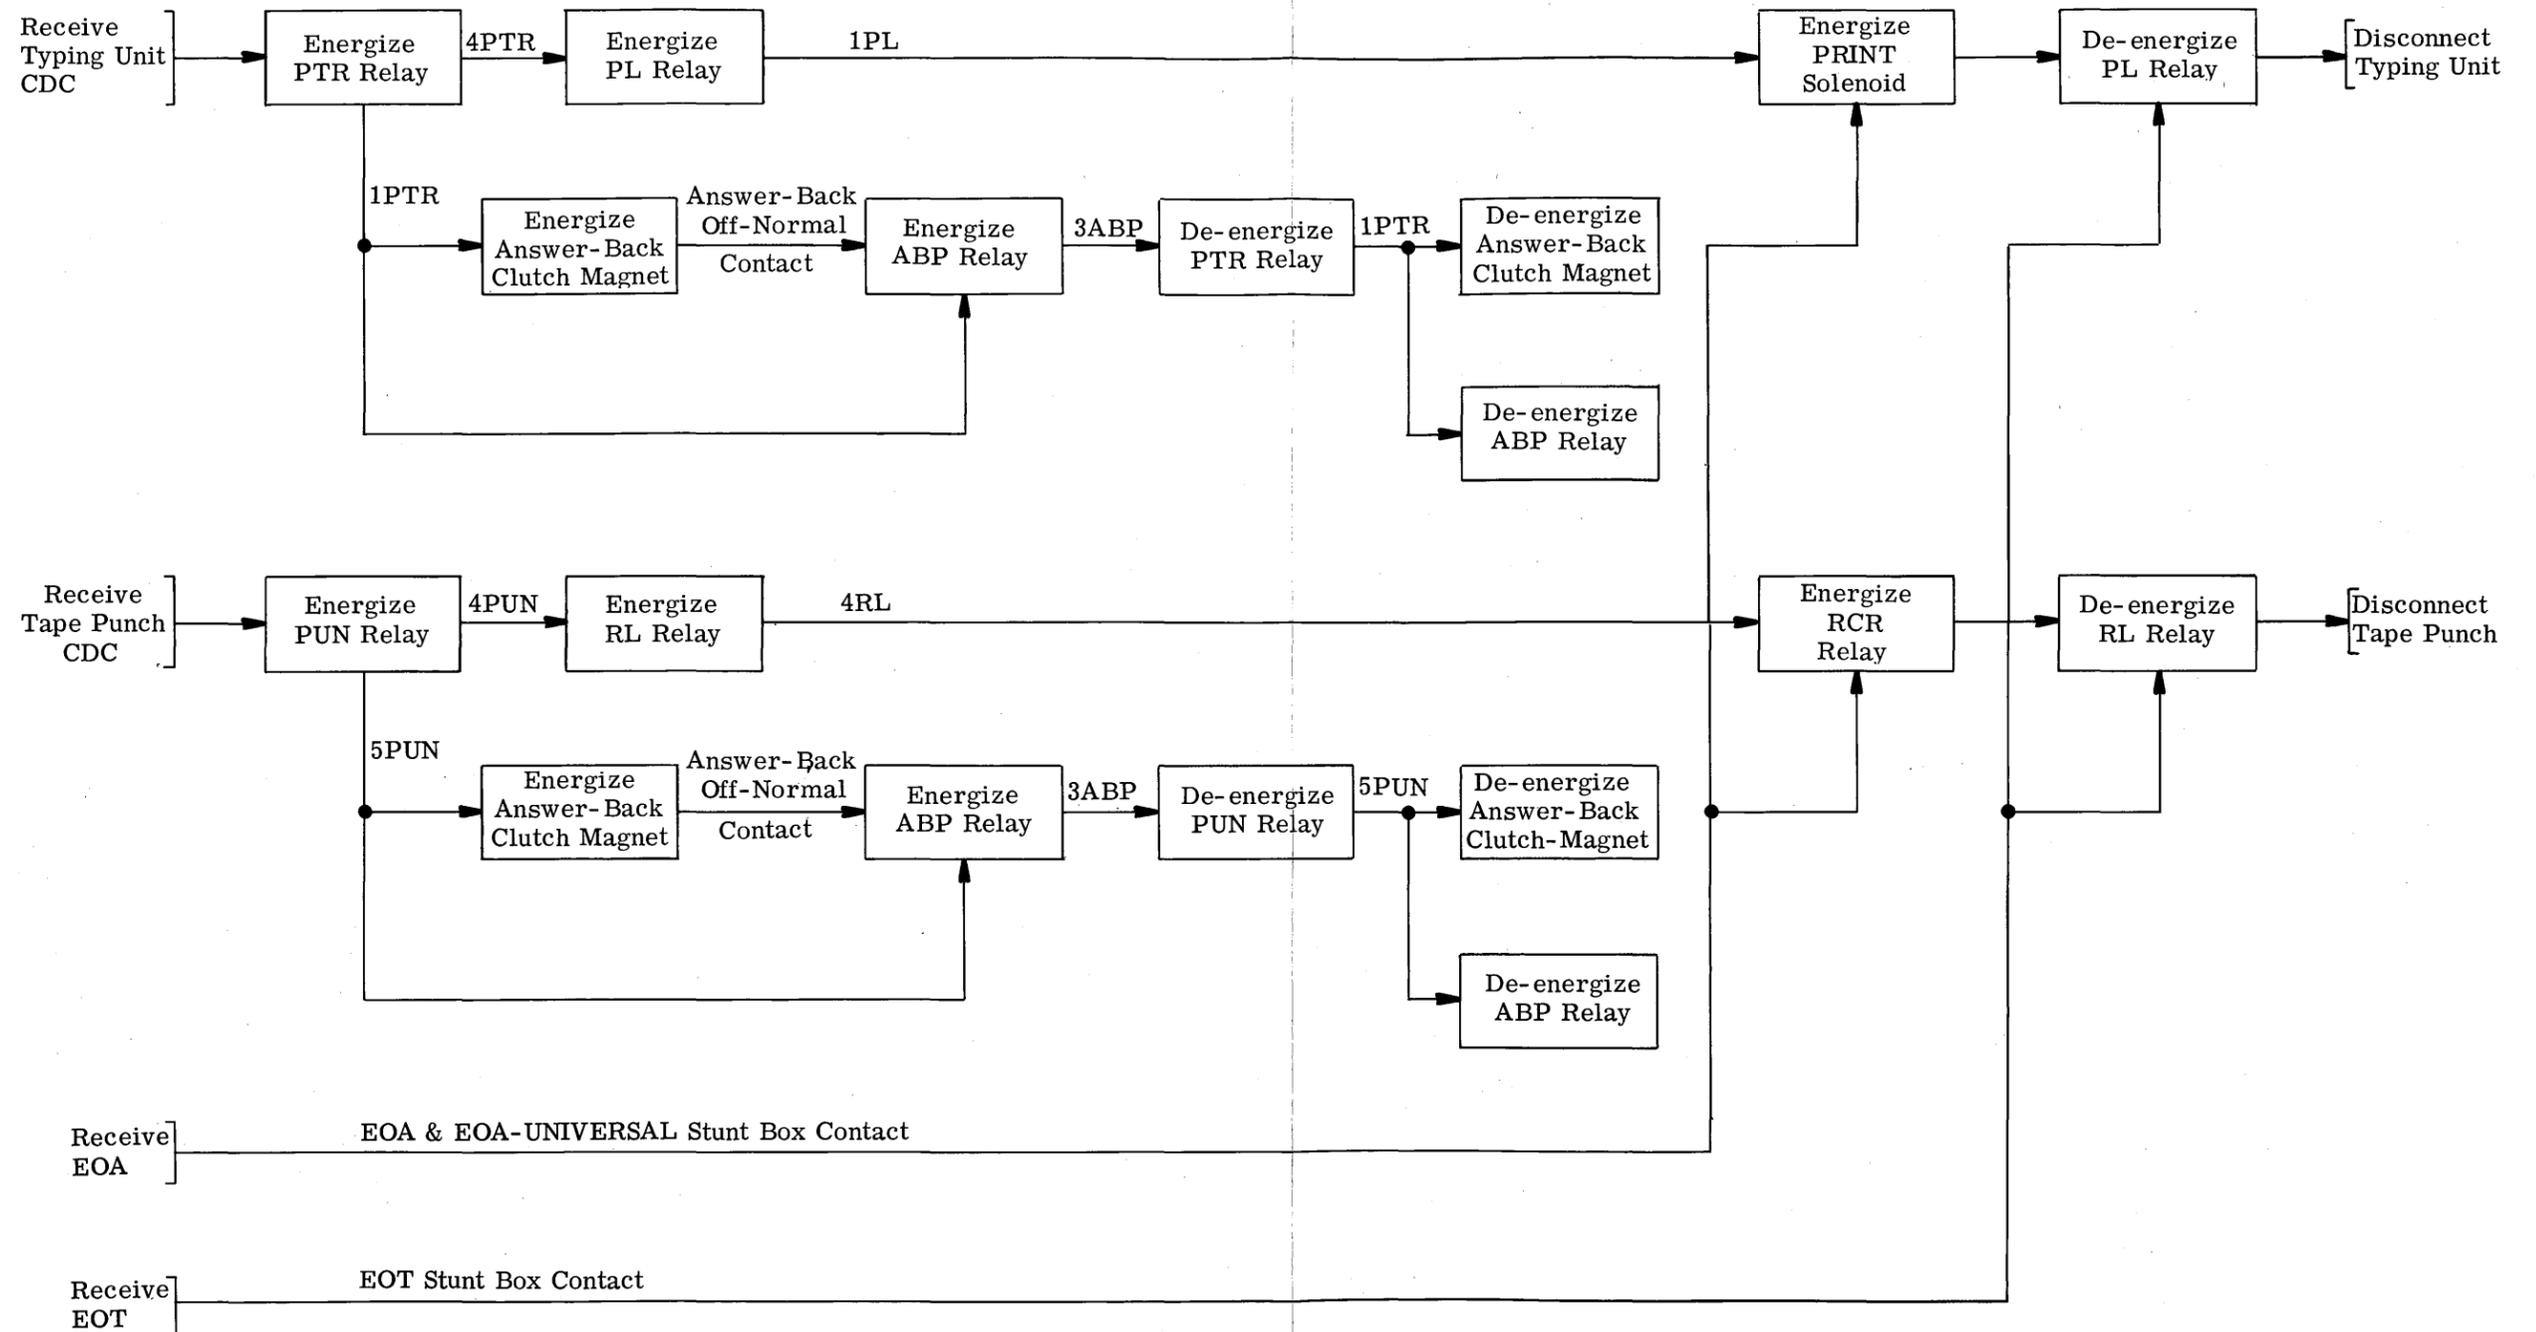

Figure 10 - Selecting the Receiving Units
3.41 The logic is similar for selecting either a tape punch or typing unit (Figure 10). Receipt of the appropriate CDC will cause its stunt box contact to close momentarily. A group CDC stunt box contact, when used, could be wired in parallel with the individual receiving unit CDC stunt box contact. Upon receipt of the group CDC or individual receiving unit CDC, the associated stunt box contact would close momentarily. Relay PTR (Printer) or PUN (Punch) is pulsed to permit either relay to remain energized through contact 3PTR or 2PUN. Contact 4PTR or 4PUN causes the PL (Printer Latch) or RL (Reperforator Latch) relay to energize.